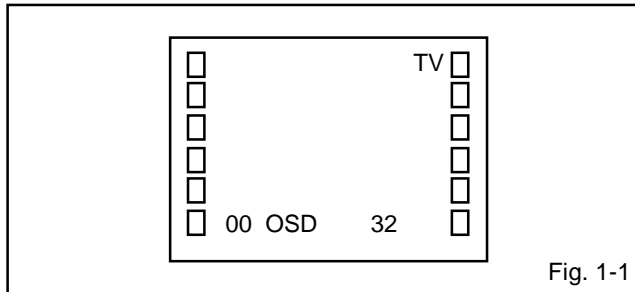

Fig. 1-1
1. In the condition of NO indication on the screen. Press the VOL. DOWN button on the set and the Channel button (9) on the remote control for more than 1 second to appear the adjustment mode on the screen as shown in Fig. 1-1.
4. Activate the adjustment mode display of Fig. 1-1 and press the channel button (01) on the remote control to select "CUT OFF".
4. Activate the adjustment mode display of Fig. 1-1 and press the channel button (12) on the remote control to select "R. BIAS".
10. If the picture is too much green. Activate the adjustment mode display of Fig. 1-1 and press the channel button (28) on the remote control to select "CB PED".
12. If the picture is too much red. Activate the adjustment mode display of Fig. 1-1 and press the channel button (29) on the remote control to select "CR PED".
4. Activate the adjustment mode display of **Fig. 1-1** and press the channel button (**22**) on the remote control to select "COLOR CENT".
4. Activate the adjustment mode display of **Fig. 1-1** and press the channel button (**24**) on the remote control to select "TINT".
3. Activate the adjustment mode display of **Fig. 1-1** and press the channel button (**07**) on the remote control to select "V. SIZE".
3. Activate the adjustment mode display of **Fig. 1-1** and press the channel button **(08)** on the remote control to select "V. LINEARITY".